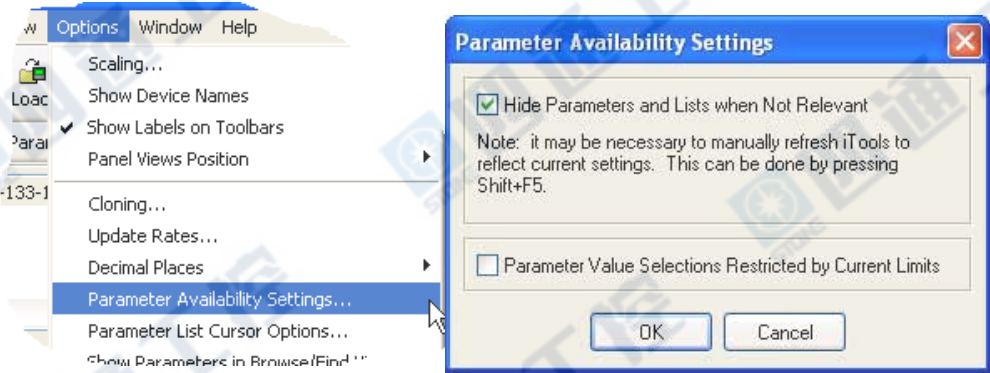

Figure 6.4.1b Show/Hide parameters
3. Hidden Parameters. By default, iTools hides parameters which are considered irrelevant in the current context. Such hidden parameters can be shown in the table using the 'Parameter availability' settings item of the options menu (figure 6.4.1b). Such items are displayed with a shaded background.